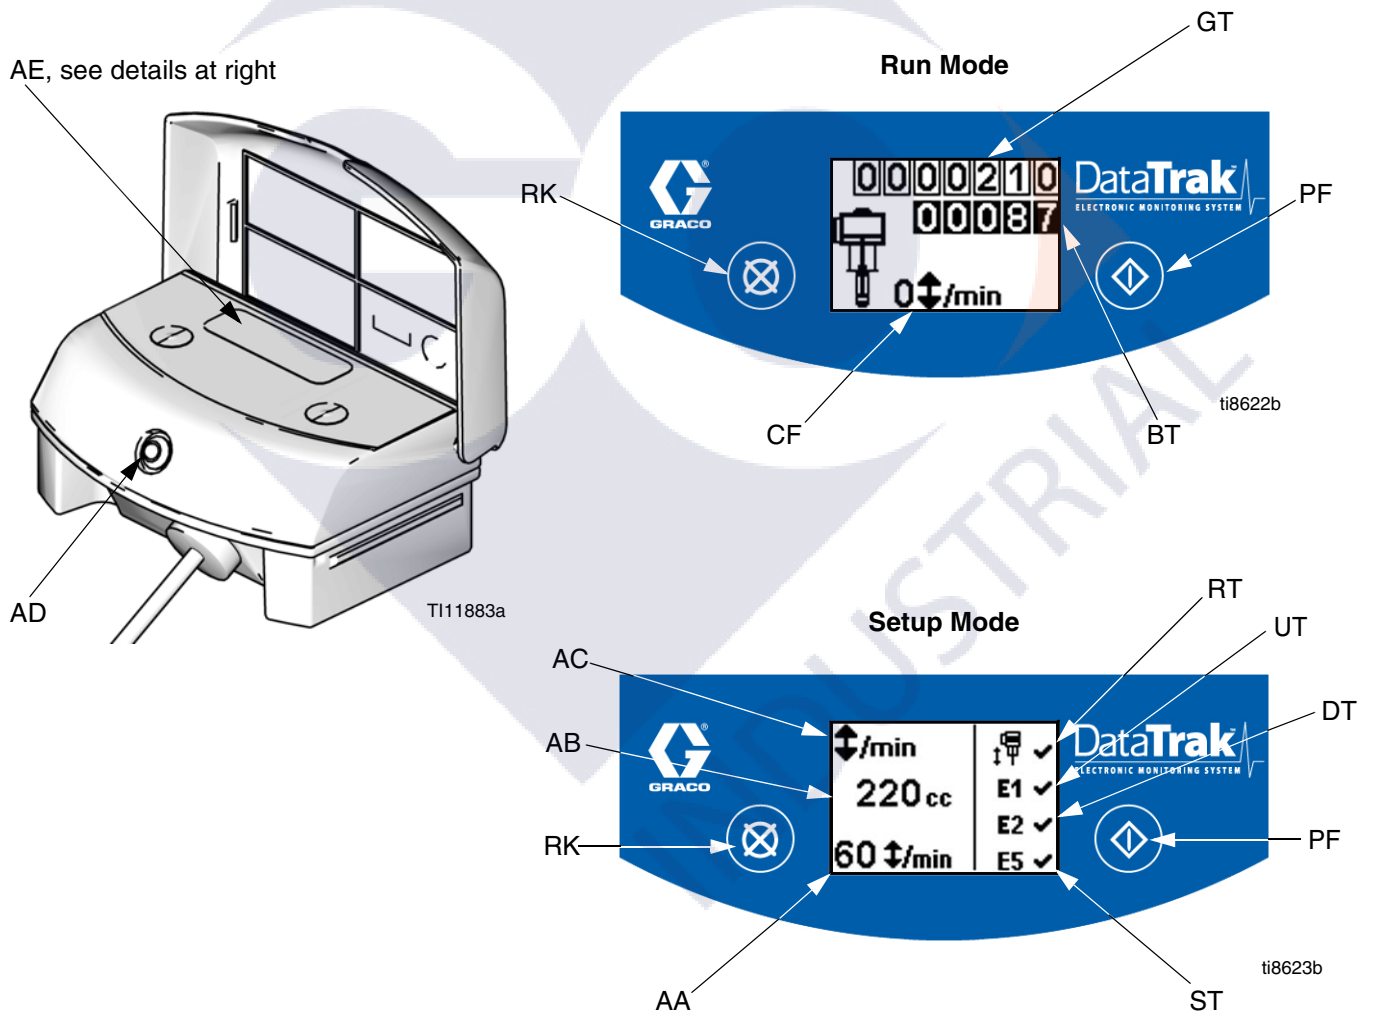

FIG. 4. DataTrak Controls and Indicators
Key for FIG. 4
1. See FIG. 4. Press and hold  for 5 seconds until Setup menu appears.
NOTE: When runaway, E1, E2, and E5 error options are enabled, a  will appear on the setup screen. See FIG. 4.
1. See FIG. 4. If pump runaway occurs, the runaway solenoid will actuate, stopping the pump. The LED (AD) will flash and the display (AE) will indicate a runaway condition (see Table 1). The display will cycle through six instruction screens.
2. Runaway Screens 1 and 2: To reset the runaway solenoid, close the master air valve (E). Wait for air to completely bleed off the air motor.
3. Runaway Screens 3 and 4: After the air is bled off, push the solenoid release button (J) down to reset the air valve. The button will pop back up when the air valve is repressurized.
5. Open bleed-type master air valve (E) to restart pump.
NOTE: To disable runaway monitoring, go to setup mode and set runaway value to 0 (zero) or toggle (RT) off  (see FIG. 4).
1. See FIG. 4. To enter Prime/Flush mode, press any key to wake up the display, then press . The Prime/Flush symbol will appear in the display and
See FIG. 4. The last digit of the batch totalizer (BT) represents tenths of gallons or liters. To reset the totalizer, press any key to wake up the display, then press and hold  for 3 seconds.
See FIG. 4. The display (AE) will turn off after 1 minute of inactivity in Run mode or 3 minutes in Setup mode. Press any key to wake up the display.
DataTrak can diagnose several problems with the pump. When the monitor detects a problem, the LED (AD, FIG. 4) will flash and a diagnostic code will appear on the display. See Table 1.